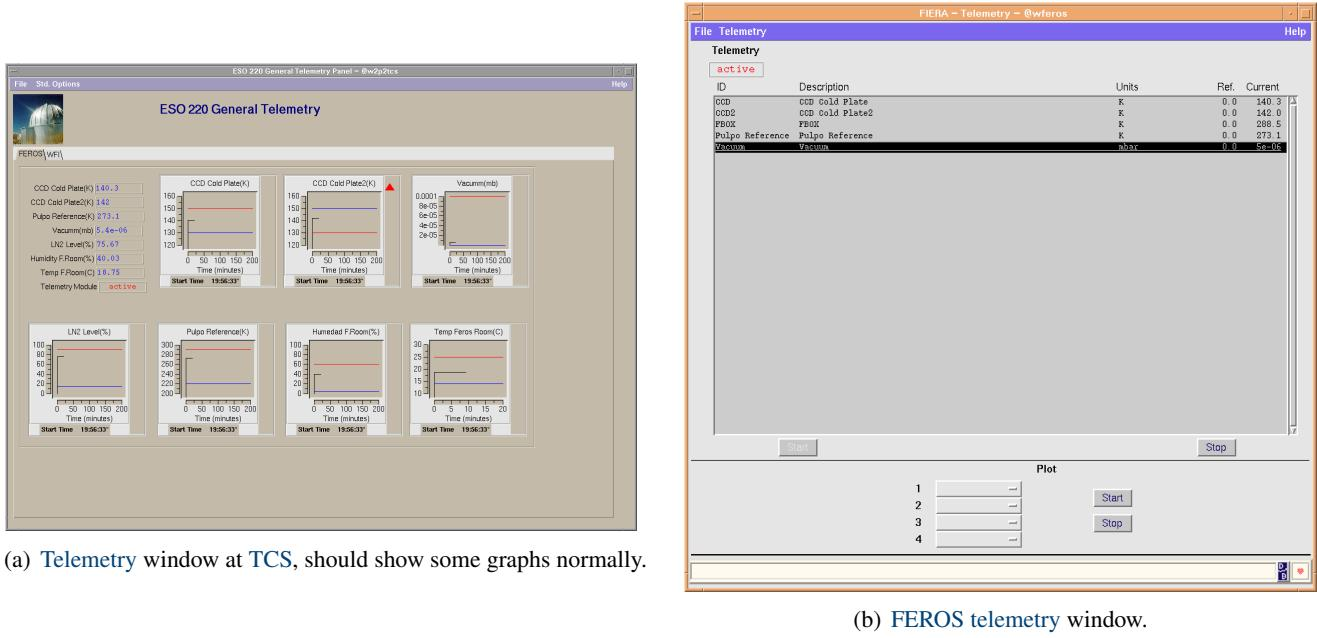

Figure 10.4: Telemetry window.
- There is a problem with the FEROS **telemetry** at TCS (window should show some graphs, Fig. 10.4(a), p. 82).